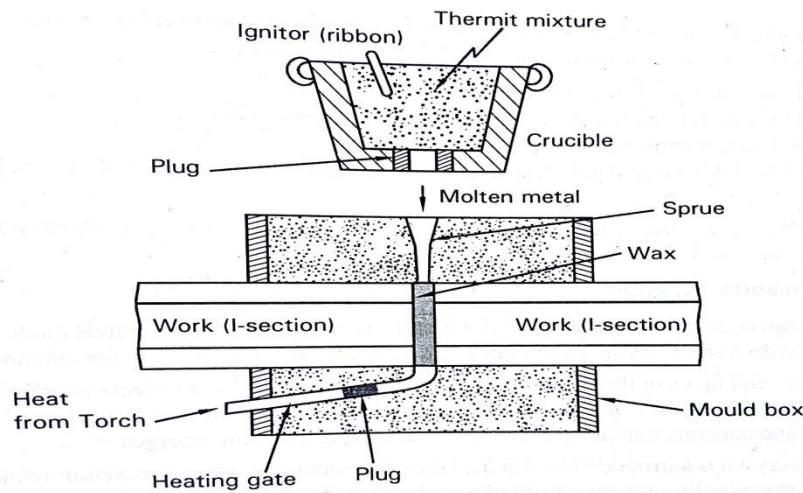

Figure 4.13 Thermit welding
- Thermitical temperature from reaction (1) is 3088°C, but due to radiant heat losses and losses to reaction vessel, this temperature is reduced to 2538°C.
- Fig. 4.13 shows, Thermit welding process.